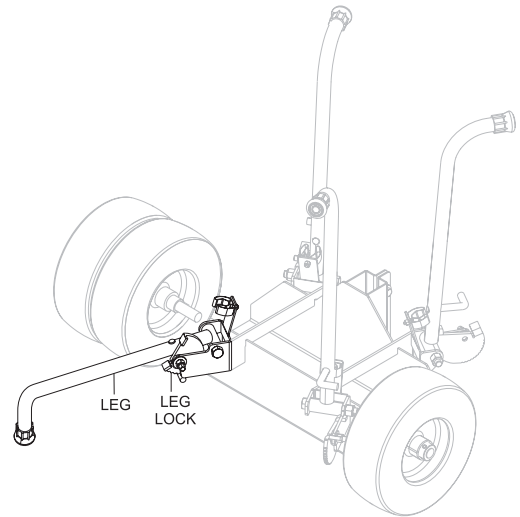

Figure 14. Stand Legs Deployed
2. Step on the leg lock to release each leg and pull down until it locks in place (see Figure 14).